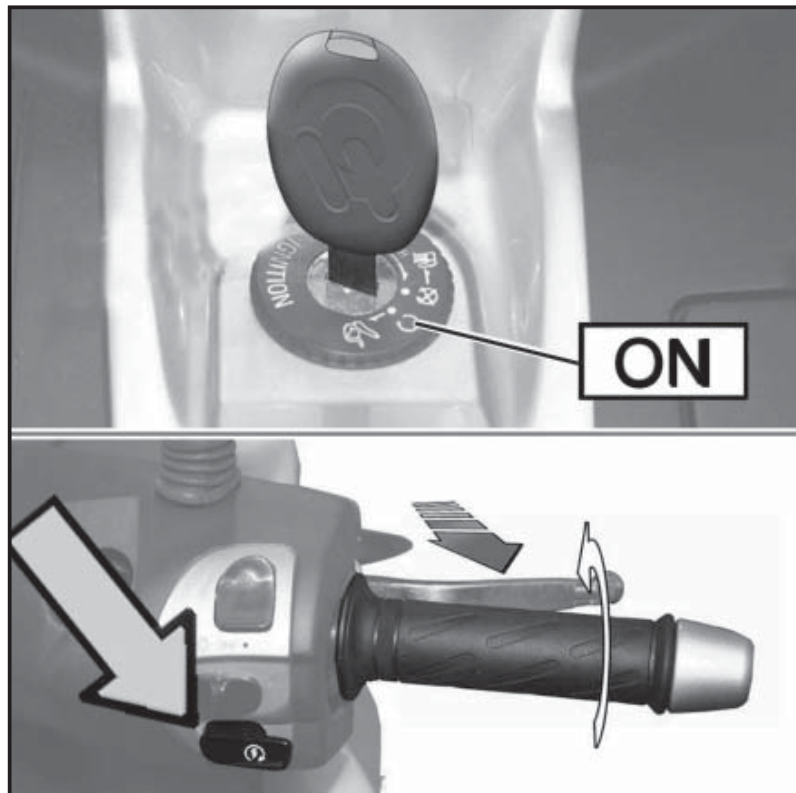

Fig. 02
- While pulling the front brake lever press the starter button as shown in (**Fig. 02**).